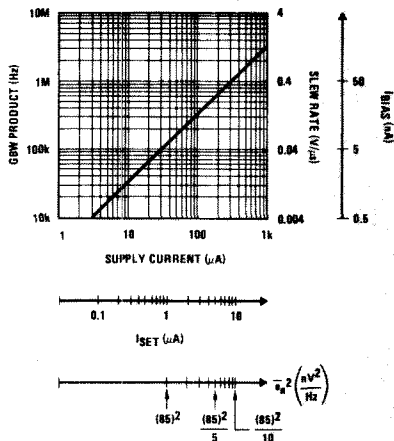

FIGURE 3. LM146 Typical Characteristics
**Isolation Between Amplifiers:** The LM146 die is isothermally layed out such that crosstalk between all 4 amplifiers is in excess of -105 dB (DC). Optimum isolation (better than -110 dB) occurs between amplifiers A and D, B and C; that is, if amplifier A dissipates power on its output stage, amplifier D is the one which will be affected the least, and vice versa. Same argument holds for amplifiers B and C.
**LM146 Typical Performance Summary:** The LM146 typical behavior is shown in Figure 3. The device is fully predictable. As the set current, ISET, increases, the speed, the bias current, and the supply current increase while the noise power decreases proportionally and the VOS remains constant. The usable GBW range of the op amp is 10 kHz to 3.5-4 MHz.